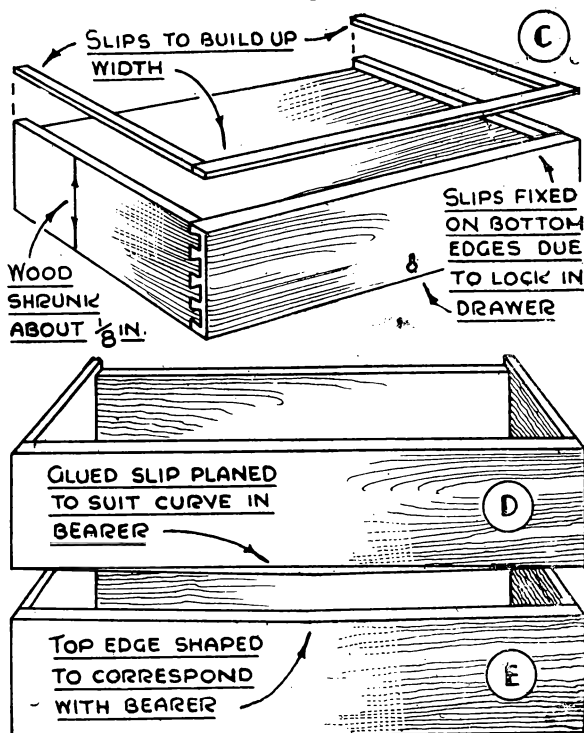

FIG. 2. TROUBLES IN DRAWERS AND THEIR REPAIR. Shrunk fronts are built up as at C. Curved drawer bearers necessitate easing drawers D and E.
**Shrunk drawers.**—Badly seasoned wood is the cause of shrinkage in drawers. If the drawer is fitted with a lock, suitable slips—to build up the width of the drawer—are affixed to the bottom edges (C, Fig. 2). To ensure a neat join at the front the drawer edges should be trued up to give a sharp edge. As the drawer runs on the slips, no nails should be used, except as a temporary measure, i.e., until the glue sets. The slips should be  $\frac{1}{2}$  in. thicker than necessary for fitting purposes.
**A Bent Bearer.**—Drawer bearers, curved slightly in the centre, give trouble. If between two drawers it affects both. Assuming the bend is downwards, the bottom edge of the upper drawer can be slipped, then the slip planed to suit the curvature of the bearer (D, Fig. 2). The lower drawer (E) has its top edge planed or spokeshaved to correspond.